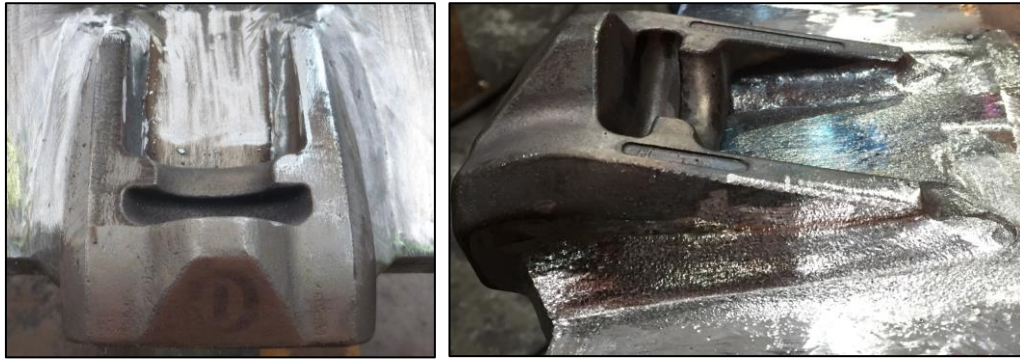

Figure 28 Fillet Welds
- 2.15.4. Carry out the Fillet welds of Bosses as per the Weld Specification Drawing BU00037748, Doc # WPS SS-012 & Weld procedure PWP0001. Commence the 1st weld pass at point 'A' and end at 'C' following the Boss profile. Re-commence 1st pass at point 'D' and end at 'G'. Two subsequent fillet passes shall commence at point 'E' and end at 'G'. Blend a smooth transition between first fillet passes and subsequent passes at point 'E'. Refer Figure 28.